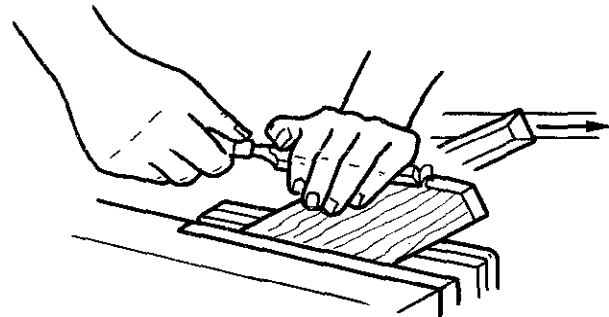

Fig. 9-23 Cutting a straight slanted corner.
2. Follow the same technique described for making a paring cut horizontally with the grain. See figure 9-23.